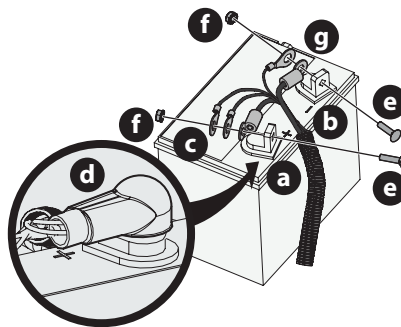

Fig. 21
**NOTE:** The positive battery terminal is marked POS. (+) (a). The negative battery terminal is marked NEG. (-) (b) (Fig. 21).
**NOTE:** If the positive cable grouping (c) is already attached, skip ahead to Step 6 (Fig. 21).
3. Slide the red boot (d), if present, back along the positive cable grouping (Fig. 21).
4. Attach the positive cable grouping (c) and positive cable for the 12V outlet (if equipped) to the positive battery terminal (a) with the bolt (e) and nut (f) (Fig. 21).
5. Position the red boot (d) over the positive battery terminal (a) to insulate it and help protect it from corrosion (Fig. 21).
6. Attach the negative cable grouping (g) and negative cable for the 12V outlet (if equipped) to the negative battery terminal (b) with the bolt (e) and nut (f) (Fig. 21).